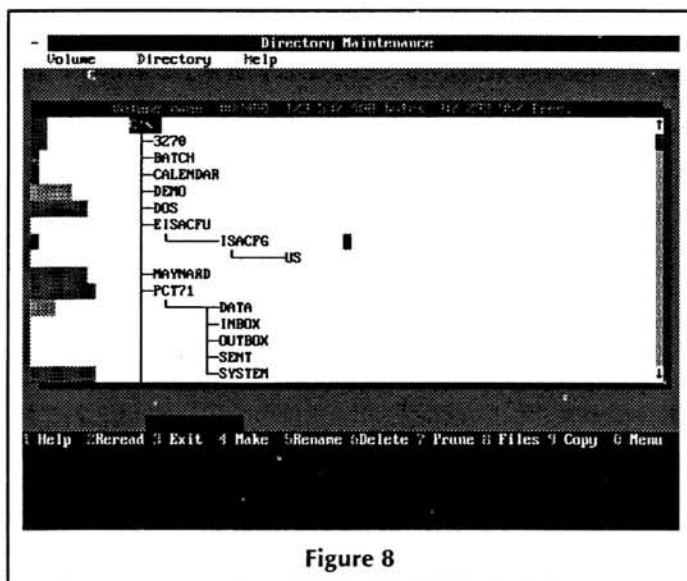

Figure 8
5. DIRECTORY MAINTENANCE (Figure 8) allows you to search for, change to, add, rename, delete, and move directories.